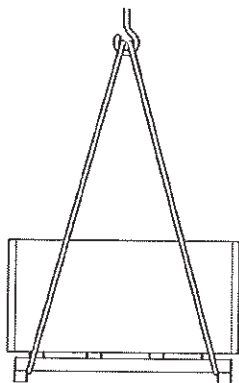

Fig. 14: Attaching the hoist
1. ▶ Attach ropes, straps or multi-point suspension gear in accordance with Fig. 14 to the pallet and secure the pallet to prevent slippage.